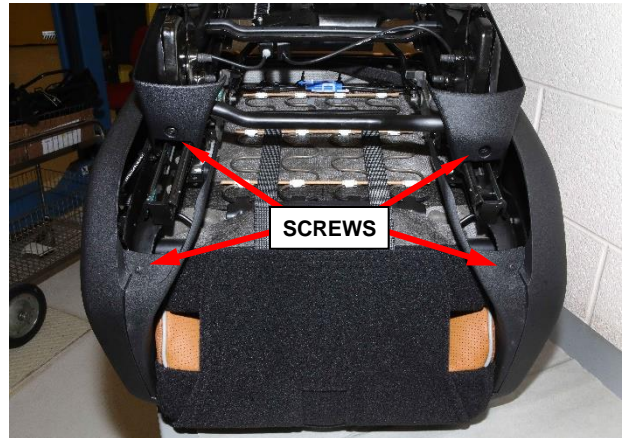

Figure 11 – Screws
4. Remove the screws fastening the rear seat cushion side shields (Figure 11).
9. Install the screws fastening the seat cushion side shields (Figure 11, Figure 12).